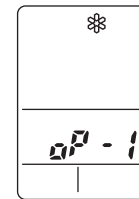

Fig. 59b
- d) ❄ appears and “oP-1” blinking in the remote controller clock display area. (Fig. 59b)